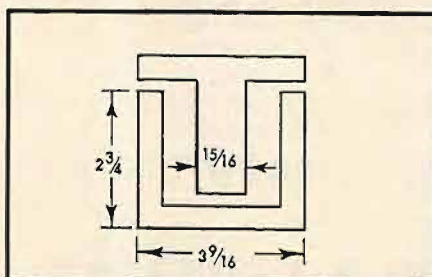

Fig. 8. Typical lamination shape.
While dealing with a specific example it is worth calculating the number of turns and the size of transformer required to obtain the primary inductance suggested. Any required value of inductance can be obtained in either of two ways; a small number of turns on a large iron core, or a large number of turns on a small iron core. A large core and few turns should result in small signal power losses and a high price, with the converse being true if a small core and a large number of turns are adopted. The choice of core size is thus somewhat arbitrary unless the permissible power loss can be specified. An examination of the lists of some of the leading manufacturers shows that their high-quality transformers have an over-all volume of about two cubic inches per watt, suggesting that a 1½-in. stack of the laminations shown in Fig. 8 will handle 20 watts, though this is a point that will be checked more closely at a later stage when the distortion products are being studied.
Using the two cubic inches per watt figure it might be expected that a $1\frac{1}{2}$ -in. deep stack of the laminations shown in Fig. 8 would handle 20 watts with ease. The core area of a $1\frac{1}{2}$ -in. stack is roughly $1\frac{1}{2}$ sq. ins. and the iron path length 8 inches. Inserting these values into Eq. (3) shows that about 1100 turns are required to give an inductance of 10 henries while 2400 turns are necessary to obtain 50 henries. When harmonic distortion is considered at a later stage, it will be shown that in general the primary inductance required to hold harmonic distortion to an acceptably low limit automatically ensures a good frequency response.